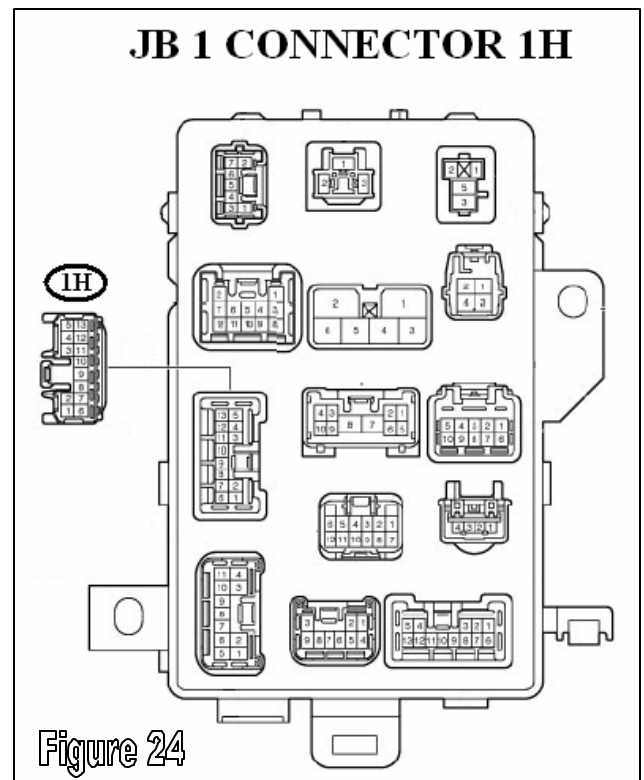

Figure 24
- Connect the red power wire to pin 10 black wire in Connector 1H in the JB1. See Figure 24
- Connect the black ground wire to pin 9 black/white wire in Connector 1H in the JB1. See Figure 24